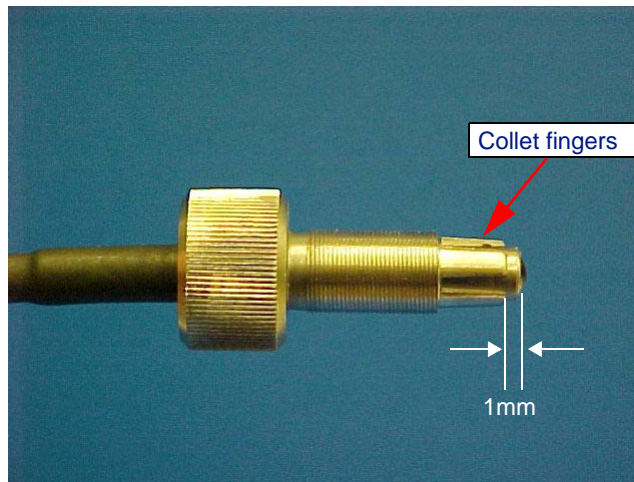

Figure A-5: Optical fiber in collet.
4. Once the fiber collet has been unscrewed all the way, the optical fiber and collet will detach from the mount (see Figure A-5).